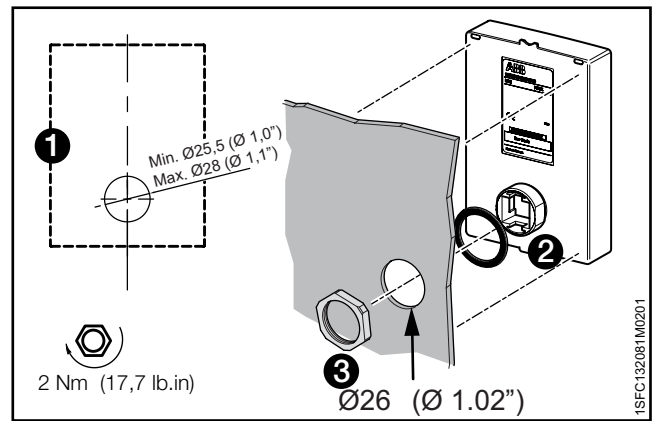

Figure 4.9
1. To remove the movable HMI from the softstarter, loosen the plastic latch below the movable HMI, see ❶ and ❷ in **Figure 4.9**.
2. Drill a hole where to attach the movable HMI. Maximum dimension of the hole is  $\varnothing 26$  ( $\varnothing 1.02$ "), see ❶ in **Figure 4.9**. Put the rubber packing around the threaded network connector on the movable HMI, see ❷ in **Figure 4.9**. Push the threaded network connector through the drilled hole. See ❸ in **Figure 4.9**. Fasten the plastic screw-nut on the threaded network connector, with 2 Nm (17.7 lb/in).